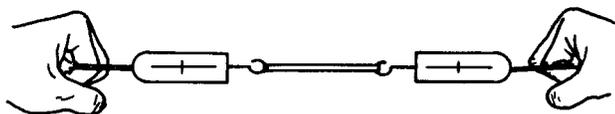

Figure 5-12
2. Borrow an extra spring scale from your teacher or from another group. Hook each of the scales to the opposite ends of a rubber band. Pull on each scale, stretching the rubber band (Fig. 5-12). Observe the readings of each scale as you increase the pull on the rubber band.